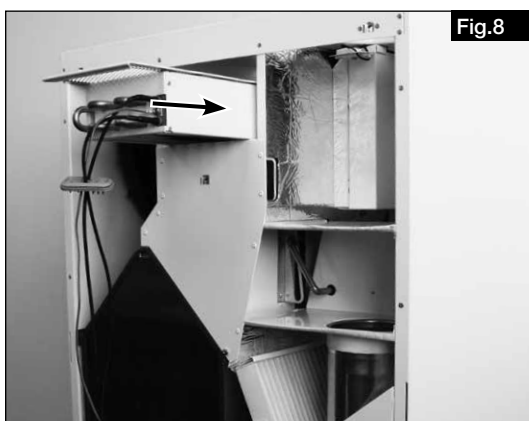

Fig. 8
5. Insert preheater with grille upwards into the intake air shaft (see Fig. 8).